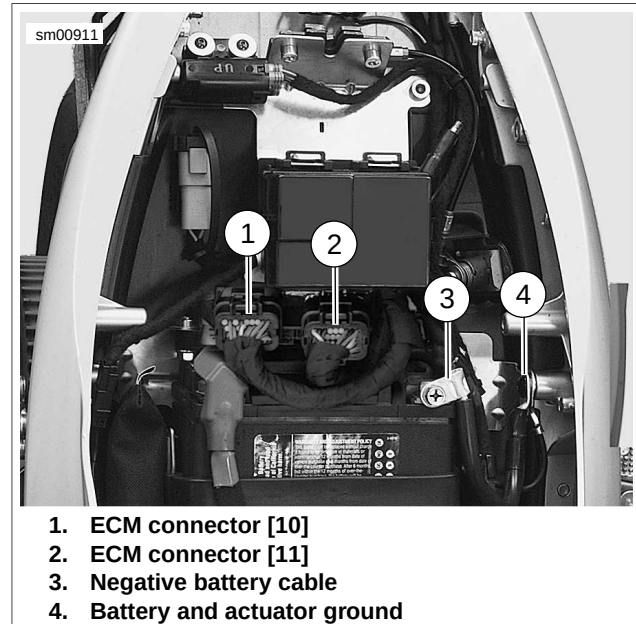

Figure 7-104. Harness and Cable Routing: Lightning (XB12 Models)
3. See Figure 7-104. Remove negative battery cable (3) from battery. See 1.4 BATTERY MAINTENANCE.
5. Figure 7-104. Remove the exhaust actuator ground (4).
8. See Figure 7-104. Disconnect connector [161B] from actuator.
1. See Figure 7-104. Mate actuator connector [161B] (2) to actuator.